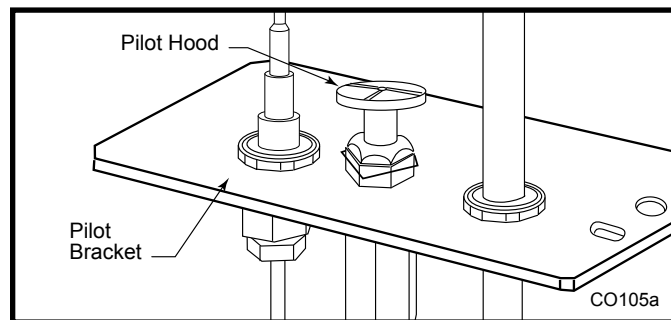

Figure 78 Remove pilot hood.
3. Remove pilot hood by lifting up. (Figure 78) Do not remove snap ring to remove pilot hood. **NOTE:** It is not necessary to remove the pilot tube for conversion.